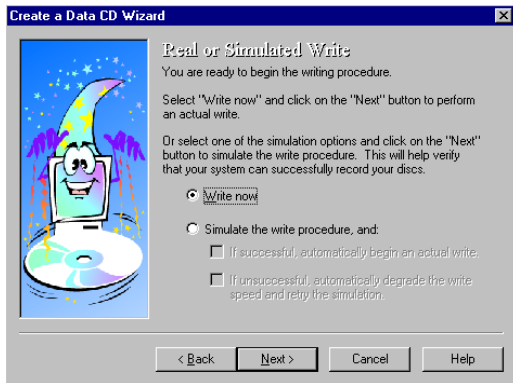

Figure 9
10. At the Real or Simulated window, click on the Write Now radio button to allow the burn-in process to start immediately. Click on the Next button to continue. See Figure 9 below.